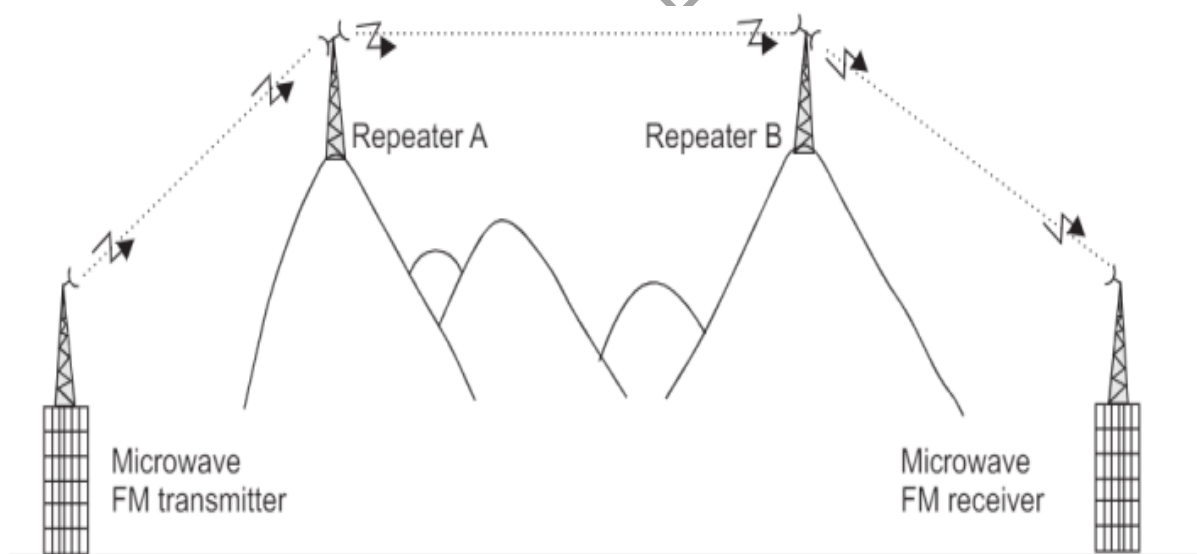

Fig. 5.19 Virtual line of sight for microwave FM transmission using repeaters.
- Figure 5.19 shows the need for repeaters and how a virtual line of sight is maintained between the transmitter and the receiver using repeaters.